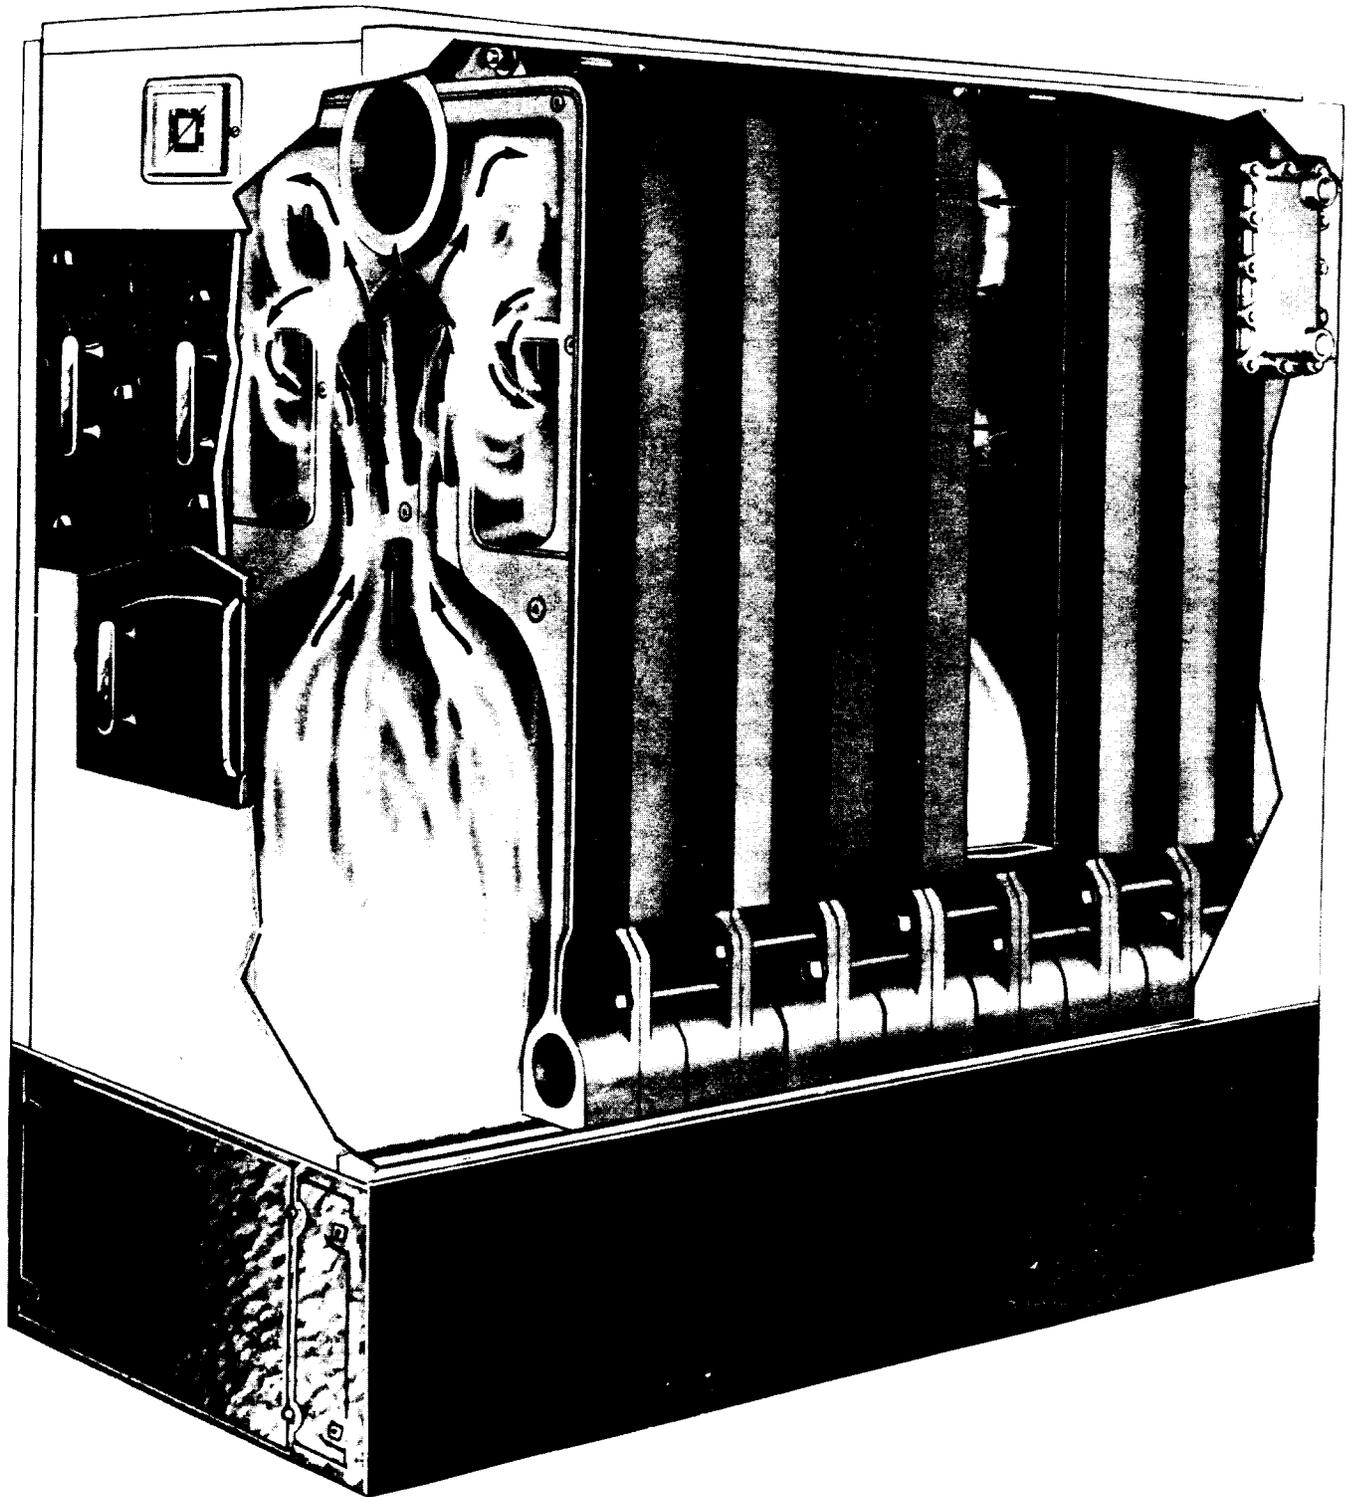

Fig. 2—Internal Push-Nipple Boiler (H. B. Smith Co., Inc.)
**3.05** The sections of *internal push-nipple* boilers are joined with tapered nipples and pulled tightly together with tie rods or bolts (see Fig. 2). These tie rods are not necessary to hold the boiler together. The tapered design and the ground